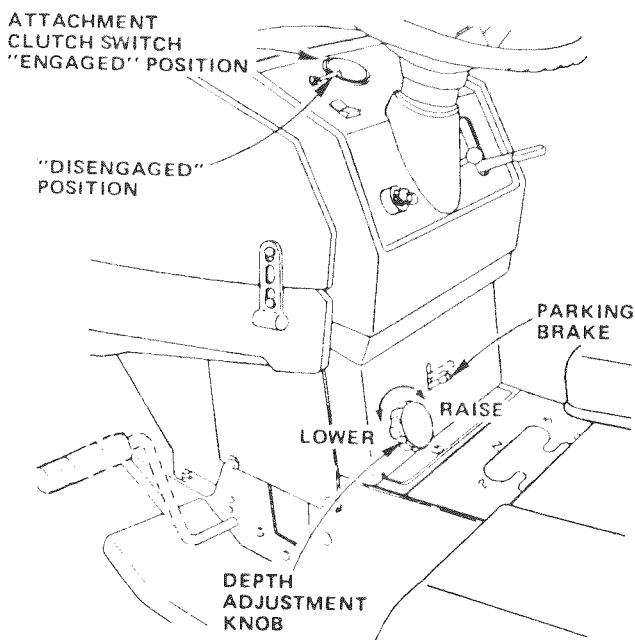

FIGURE 43
3. Move Attachment Clutch Switch to disengaged position (Fig. 43).
Pull Attachment Clutch Switch (Fig. 43) out and up to engage clutch. There will be an engine hesitation as the clutch engages.
Fine adjustment of mower height is controlled by the Depth Adjustment Knob. Turn clockwise (↻) to raise mower. Turn counterclockwise (↺) to lower mower (Fig. 43).
5. Use Attachment Lift Lever to lower mower into cutting position. Average cutting height is approximately 2-1/2 to 2 - 3/4 inches. Height of cut can be adjusted by means of the Depth Adjustment Knob (Fig. 43). Turn Depth Adjustment Knob clockwise (↻) or counterclockwise (↺) to match preselected Lift Control Lever mowing height.
**BEFORE MAKING ANY INSPECTION, ADJUSTMENT OR REPAIR: PUSH TRACTOR CLUTCH-BRAKE PEDAL COMPLETELY INTO BRAKE POSITION. MOVE GEAR SHIFT CONTROL LEVER TO "N" NEUTRAL POSITION. PLACE PARKING BRAKE IN "ENGAGED" POSITION. DISENGAGE ATTACHMENT CLUTCH SWITCH (FIG.43).**